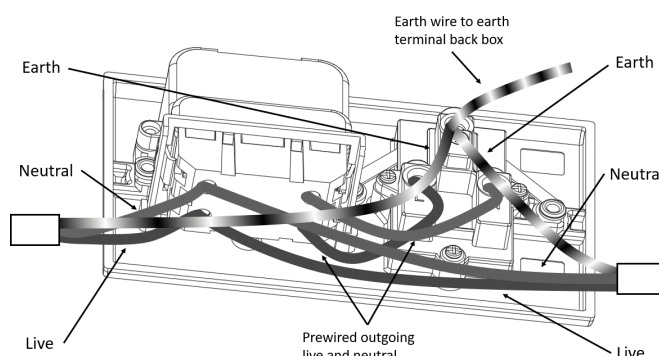

Figure 1: Wiring Diagram
4. Take the new socket and loosen the terminals at the back of the double pole switch. Insert the Live, Neutral and Earth wires into their respective terminals and tighten the terminal screws. Follow **Figure 1** for typical wiring detail.